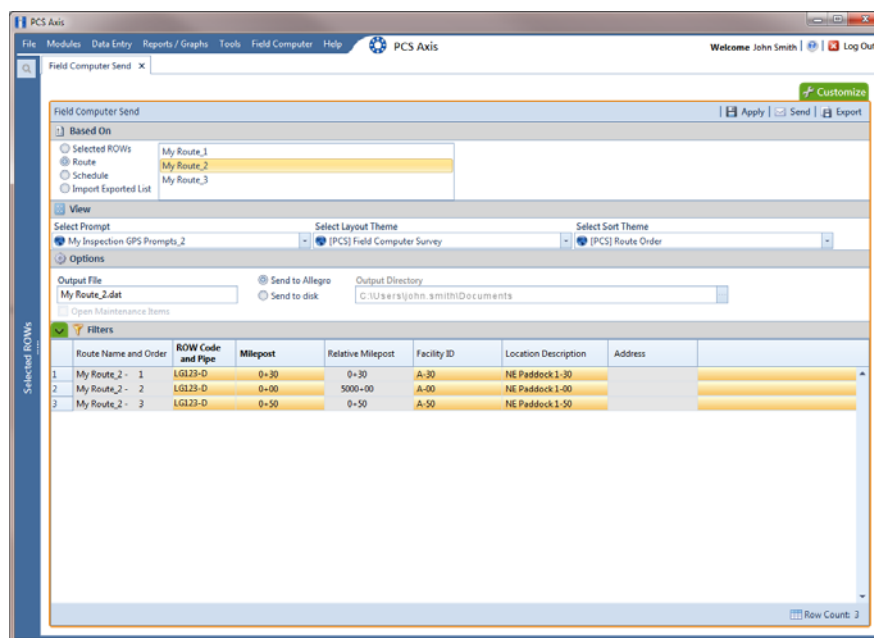

Figure 13-5. Field Computer Send
- 4 Click the **Route** option and then select a route in the selection box. The following figure shows *My Route_2* has been selected (Figure 13-5).
- 6 Select a prompt, layout, and sorting theme as follows (Figure 13-5, page 522):
- a Click the  **Filters** tab to open the *Filters* panel (Figure 13-5, page 522).